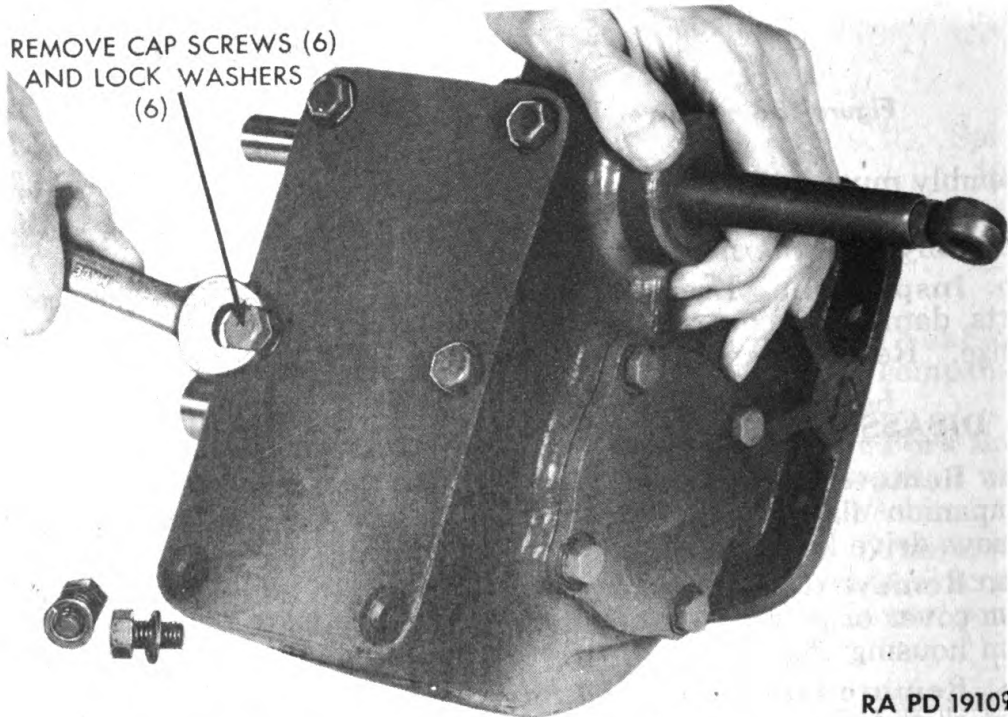
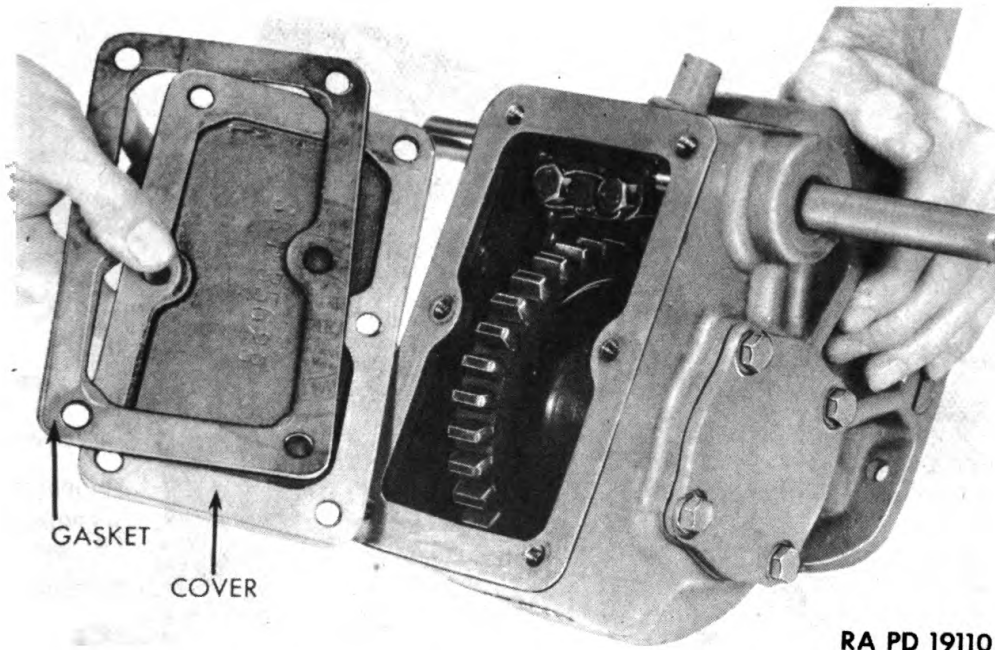

Figure 190 — Removing Power Take-Off Cover Cap Screws
Figure 191 — Removing Power Take-Off Cover and Gasket
b. Remove Cover. Remove six cap screws and lock washers from cover of power take-off (fig. 190). Lift off cover and gasket from housing (fig. 191).